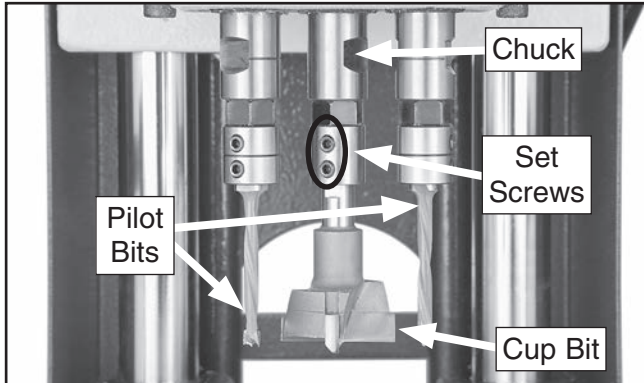

Figure 35. Chucks with boring bits installed.
- Loosen the set screws on all the chucks (see **Figure 35**).